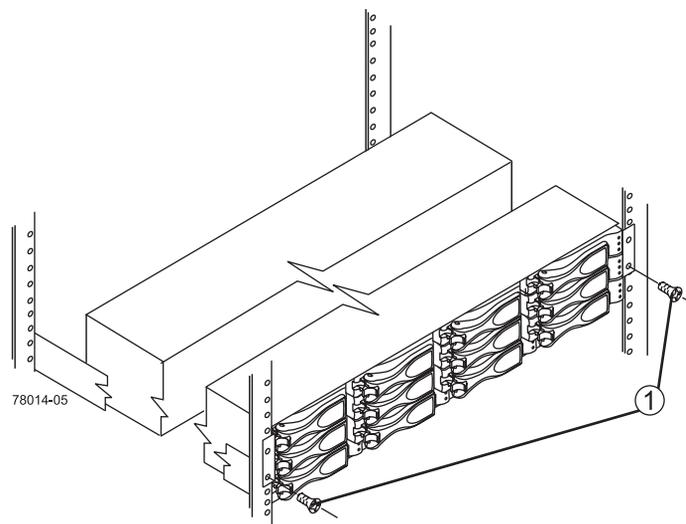

Figure 1-25 Securing the Front Screws on the Disk Enclosure
Use Figure 1-25 on page 31 and the steps that follow to properly secure the disk enclosure in the rack with screws (see item 1).